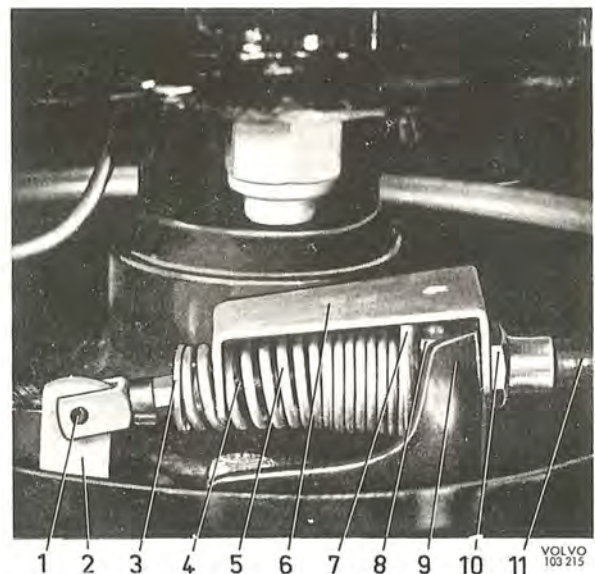

Fig. 5-82. Fitting the spring tool
3. Check that the brake pads are not stuck to the brake disc. To prevent the lever when adjusting from influencing the shoes and thus give misleading results, the spring tension acting on the lever should be reduced. This can be done by fitting holder SVO 2742 (Fig. 5-82) or by disconnecting the cable from the lever.
5. Place holder SVO 2742 so that the return spring is held in position according to Fig. 5-82. Bend up
2. Fit on new rubber cable guides for the cable suspension. Place the cable in position in the rear attachment and tighten the nut. Fit the washers and return spring. Compress the spring with the help of the holder tool, see Fig. 5-82. Oil the lock pin and fit it together with the cable on the lever. Fit the attachment and rubber cable guide on the frame member.